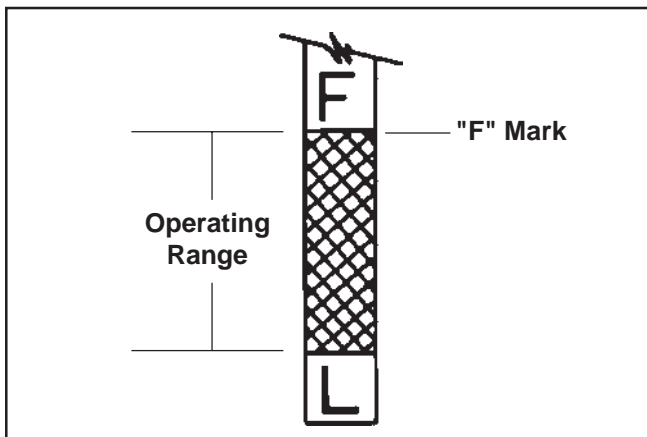

Figure 6-3. Oil Level Marks on Dipstick.
- Remove the dipstick and check the oil level. The level should be between the "F" and "L" marks. If low, add oil of the proper type to bring the level up to the "F" mark. Reinstall the dipstick and push in completely. See Figure 6-3.